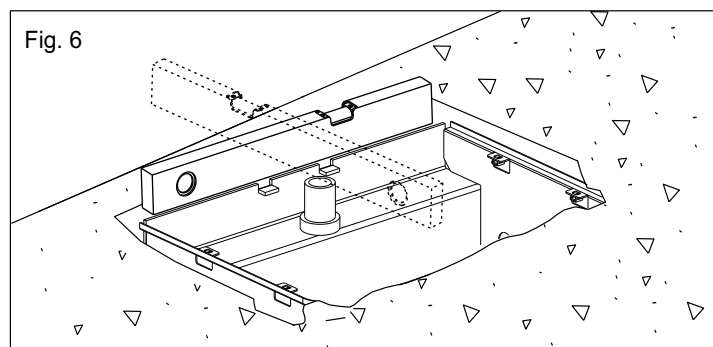
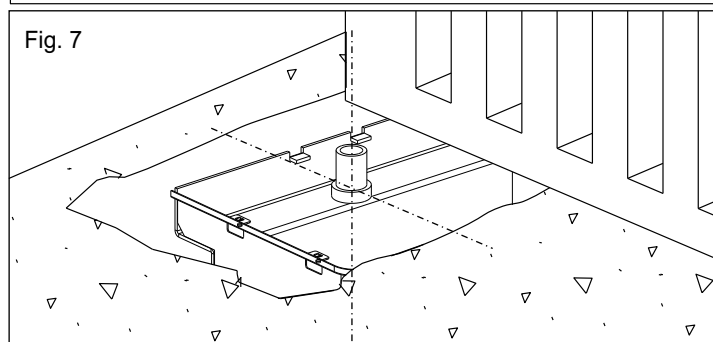

Fig. 6
Fig. 7
2.3. Before concreting the carrying box, use a level to make it perfectly horizontal to the ground (Fig. 6) and perpendicular to the axis of the gate (Fig. 7).